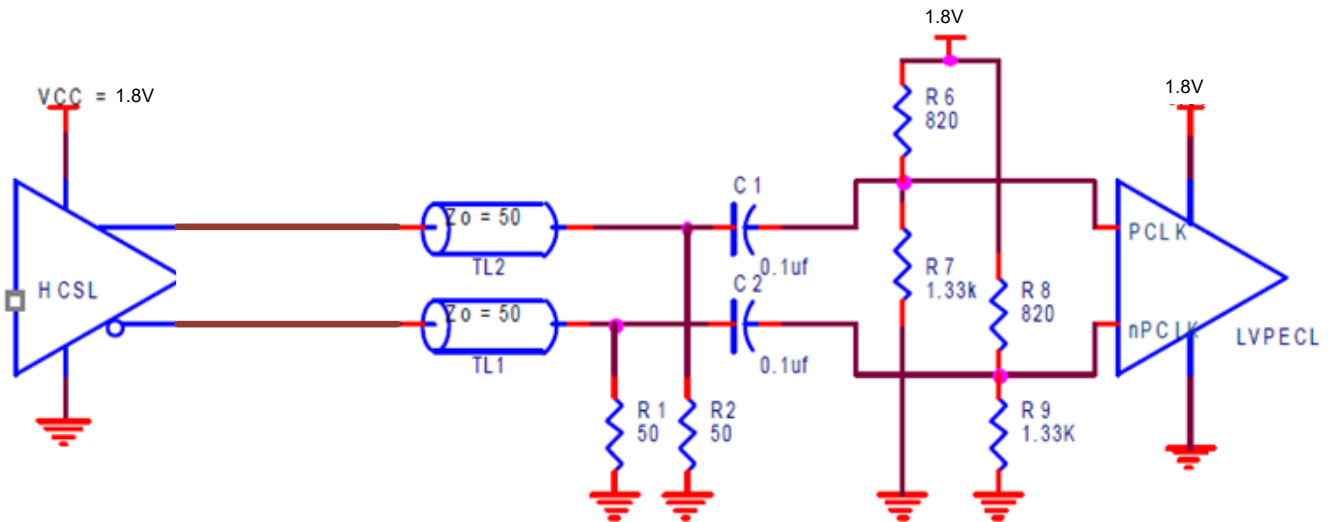

Figure 6. Termination Example of HCSL to LVPECL
- Figure 6. Termination Example of HCSL to LVPECL5
Figure 6 shows how to interface an FC3 HCSL output to an LVPECL receiver. It uses AC-coupling and a re-bias. R1 and R2 can also be omitted when the FC3 HCSL driver is configured to use internal terminations.